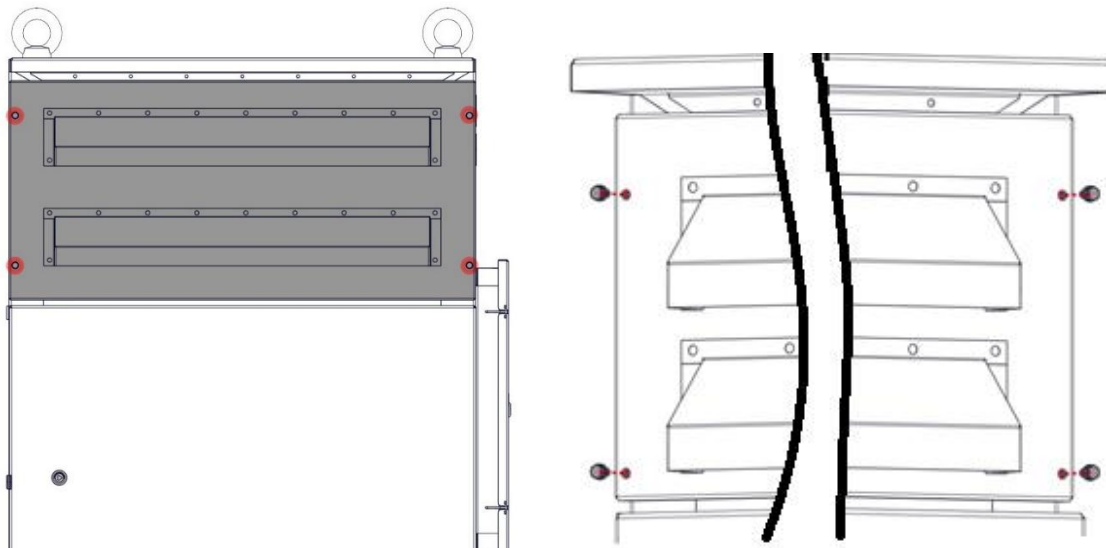

Figure 36 – Remove cover of fan compartment
1. Unscrew four bolts shown on the figure 36. Use wrench size 10 mm (13/32").